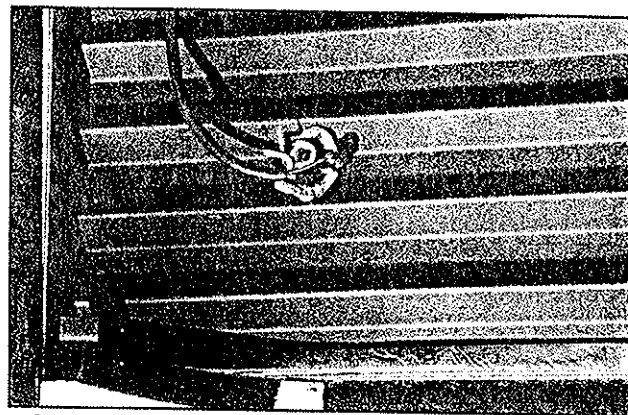

Figure 9
36. Mount fan thermostat on the absorber surface in the upper half near the house air intake and secure with No. 8 by 1/2 in. Hex head sheet metal screws. Fig. 9
37. Use No. 12-2 with ground electrical wire. Connect the yellow receptacle terminals for No. 12 wires to the bare copper portion of the insulated wires, (crimp securely), and install on thermostat. Secure ground wire to absorber plate with No. 8 1/2 inch sheet metal screws. Fig. 9